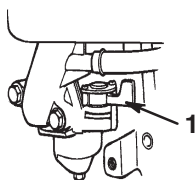

Figure 9
2. Open the fuel valve by moving the lever to the **right** (Fig. 9).